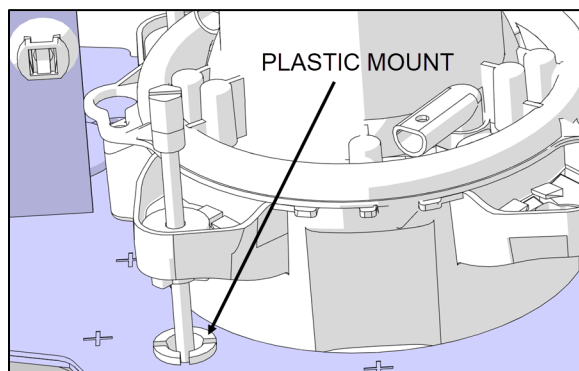

FIGURE 81: UNFASTEN PLASTIC MOUNTS
3. Using pliers, unfasten all plastic mounts from the headlight metal support (Figure 81).